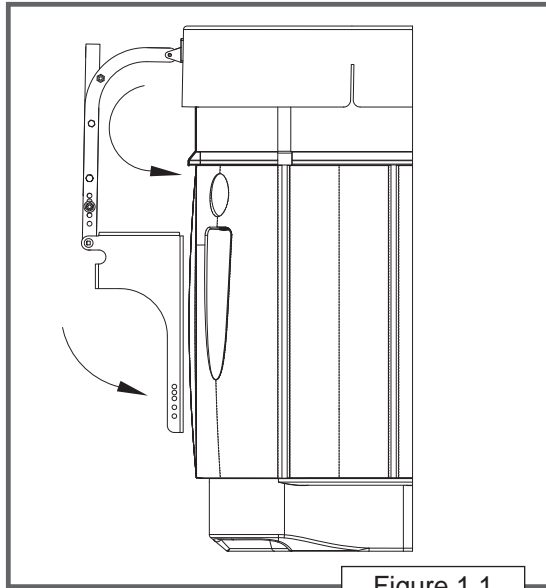

Figure 1.1
- See Figure 1.1.
Rotate Pivot Assemblies until the bottom (Mounting Bracket) touches the side of the spa (Figure 1.1).